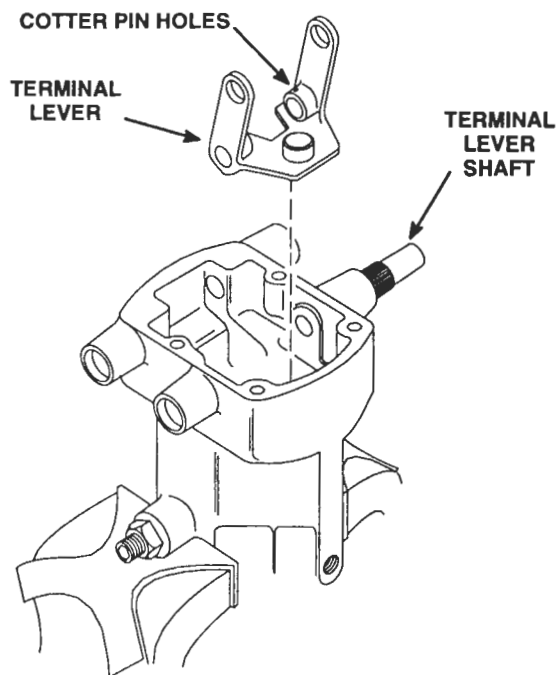

Figure 15. Installing Terminal Lever Shaft in Governor Housing and Terminal Lever
- b. Lubricate one of the terminal lever shafts with engine oil. Place the terminal lever in between the ends of the two bushings inside of the governor housing. Then insert the serrated end of the shaft into the bushing in the housing with the cotter pin holes in the shaft and terminal lever in alignment (Figure 15.) Push the shaft into the lever until the two holes are in alignment.